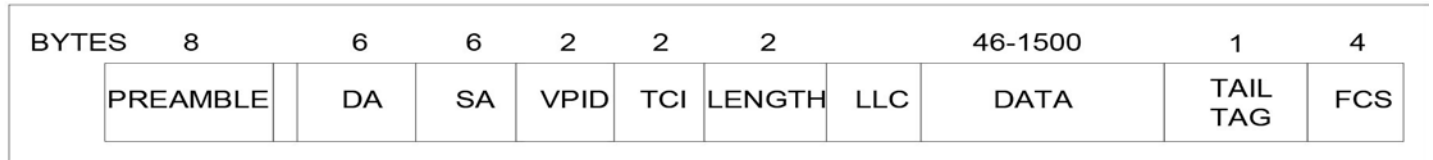

Figure 12. Tail Tag Frame Format
5. Registers can be read and configuration can be verified with a typical SPI read data cycle as shown in Figure 10 or a multiple read as shown in Figure 12. Note that read data is registered out of SPIQ on the falling edge of SPIC.